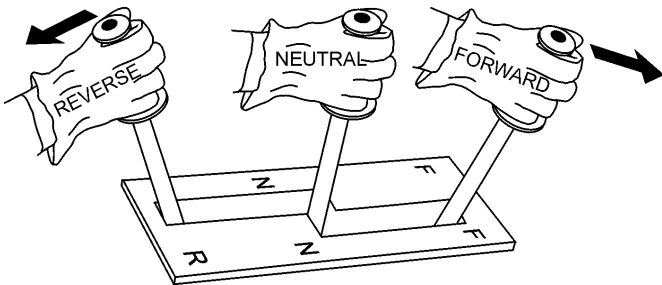

Figure 22. Shift Lever
1. To make the roller move in a forward direction, move the shift lever forward as shown in Figure 22.